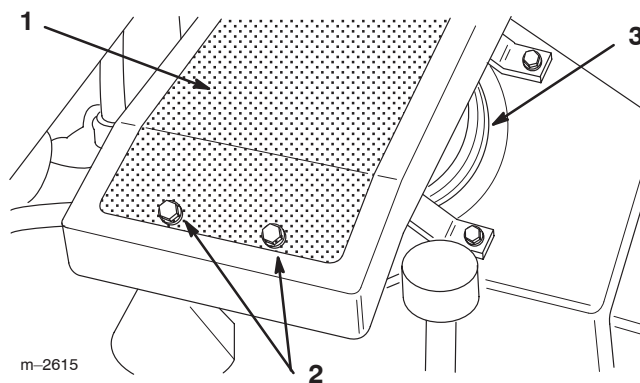

Figure 24
1. Remove oil cooler from the engine (Fig. 24). Save all mounting hardware.
2. Blow out fins of oil cooler and area between fins and screen with compressed air. If area between screen and fins is tightly packed, remove oil cooler from screen. Removing two retaining screws (Fig. 24). Save all mounting hardware.
3. Clean off engine air intake (Fig. 24).
4. Install oil cooler onto engine with previously removed hardware (Fig. 24).